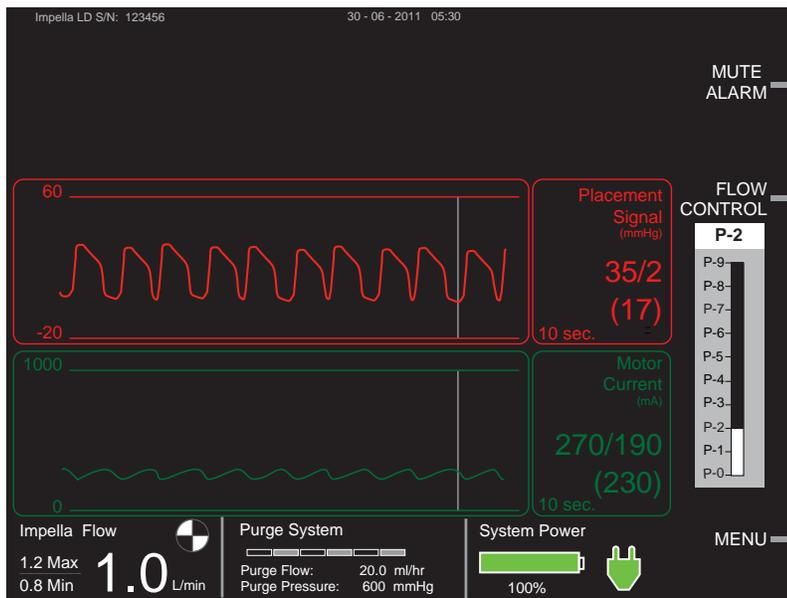

Figure 5.47 Selecting P-Level
1. Press the **FLOW CONTROL** soft button to open the P-level menu (see Figure 5.47).